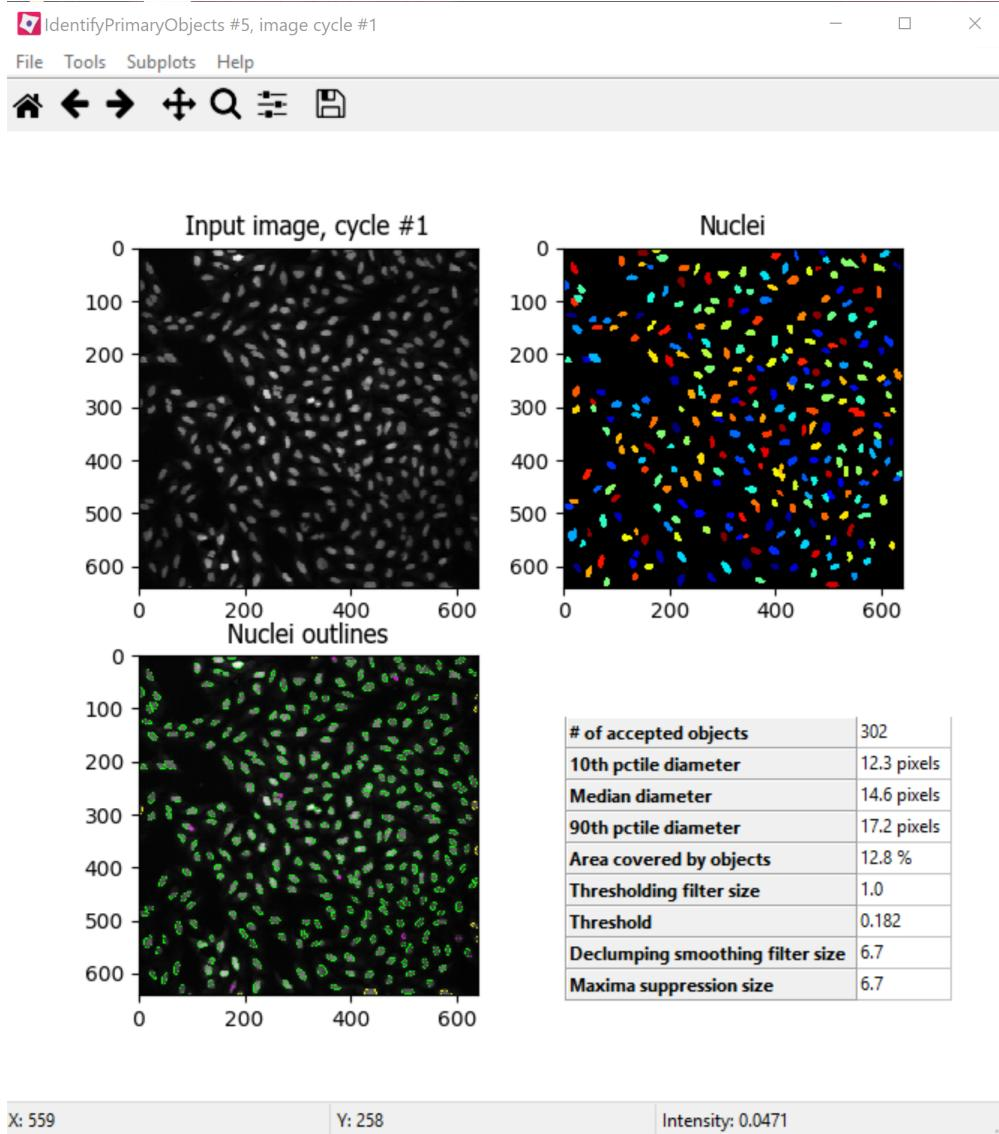

Figure 2: Example module display window for *IdentifyPrimaryObjects*.
- Click on the "Step" button below the pipeline panel, in order to progress through each module in the pipeline, one by one. Upon stepping through the *IdentifyPrimaryObjects* module, a module display window will appear similar to that shown in Figure 2 below.
The results of *IdentifyPrimaryObjects* are displayed in four panels in the display window, as shown in Fig. 2: